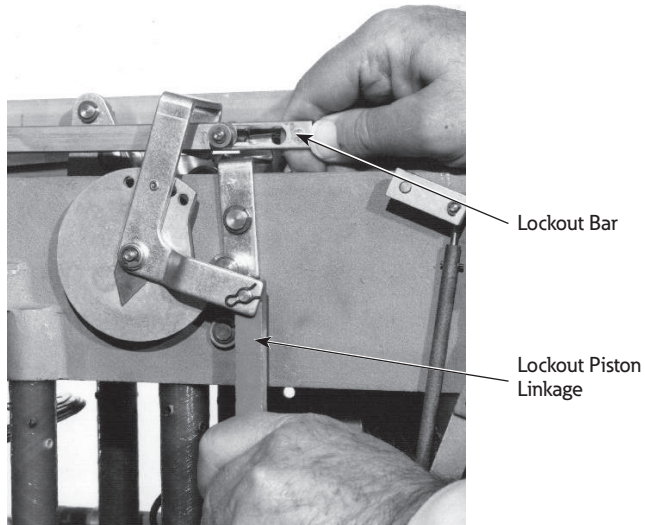

Figure 8. Setting the number of operations to lockout
The recloser can be set for two, three, or four operations to lockout by indexing the lockout bar (Figure 8) to the proper notch. The outer notches (2 and 4) correspond to two and four operations to lockout; the middle notch corresponds to three operations to lockout.
1. Grasp the lockout piston linkage (Figure 8) in one hand and, with the other hand, pull the lockout bar forward to release the engagement.